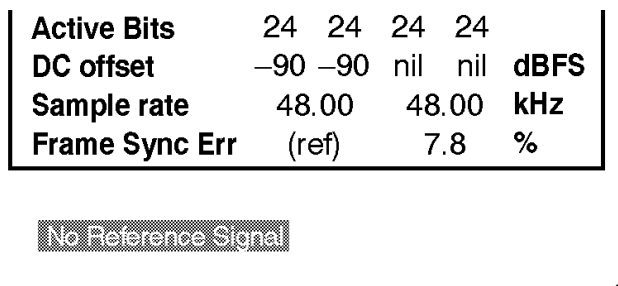

Figure 25: Sync Error Reporting in the Absence of a DAR
- Frame Synchronization Error — for each input with respect to the Digital Audio Reference (DAR), when one is present at the REFERENCE input. Otherwise—when both inputs are active but no DAR is present—the error of input 3–4 relative to input 1–2, as depicted in Figure 25. Errors are expressed as the percentage of a complete digital audio frame.
Notice the “No Reference Signal” message in Figure 25. It will appear whenever a DAR is absent from the REFERENCE input.